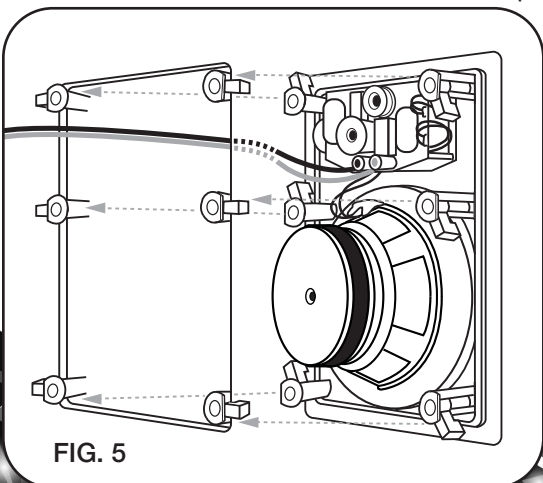

FIG. 5
6. See FIG. 5. With the speaker wire attached to the speaker, slide the speaker up inside the cutout hole. Center the speaker in the cutout hole and turn the four locking screws clockwise until the speaker is drawn up snugly to the wall board from behind, clamping the speaker in place. Try to tighten each screw equally. Replace the speaker grille by gently placing it over the speaker until the magnets "grab" hold of the grille.